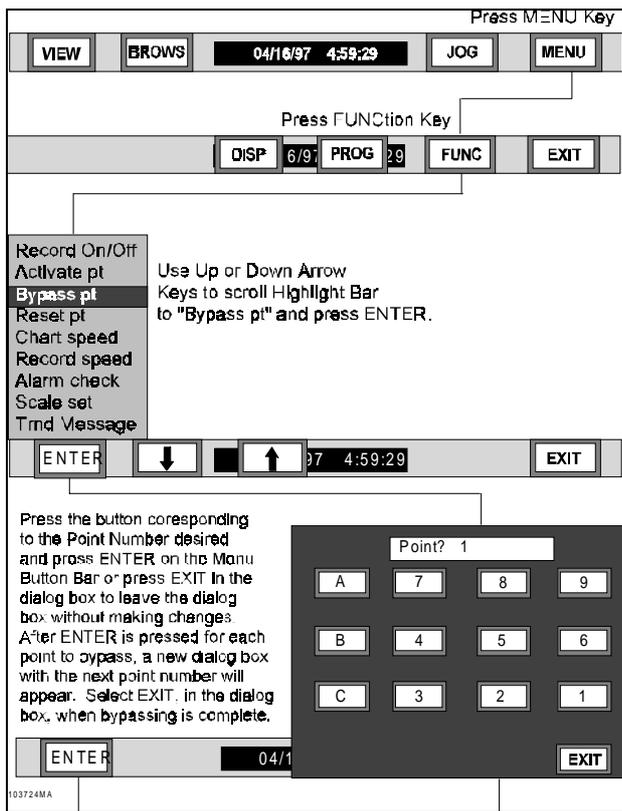

Figure 3-34 Bypass Points Flow Chart
C. Bypass Point - This menu item removes active points from the measurement cycle. A bypassed point will still be in the database and the message **BYPASSED** will display when the bypassed point appears on the display or is printed. To Bypass a point or points, use the following instructions and Figure 3-34: